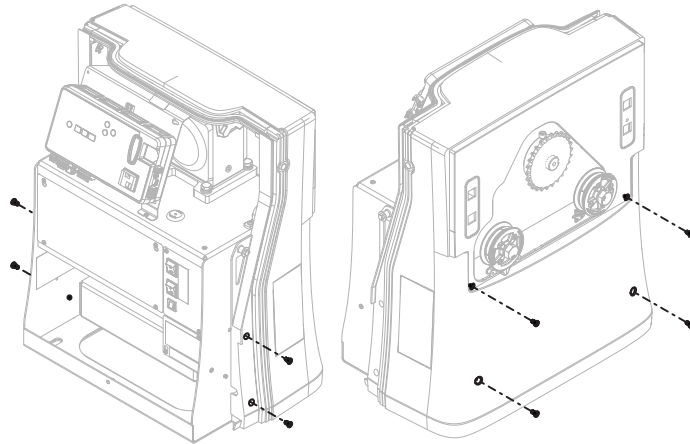

Figure 11. Install M5 Hex Bolts to Sides and Back
4. Attach two M5 screws to both sides of the back cover (Figure 11).
5. Attach four M5 screws to the rear of the back cover (Figure 11).